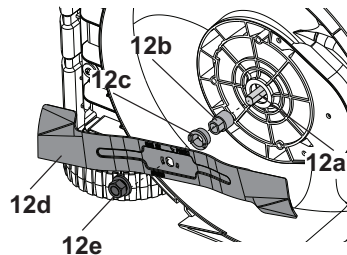

Fig. 21
1. Keep the underbody and cutting blade (12d) clean and free of debris. Remove clippings from the rear discharge chute (20).
4. Loosen the hex nut (12e) anticlockwise using a suitable wrench (Size 17 mm) and remove it together with the cutting blade (12d) (Fig. 21).